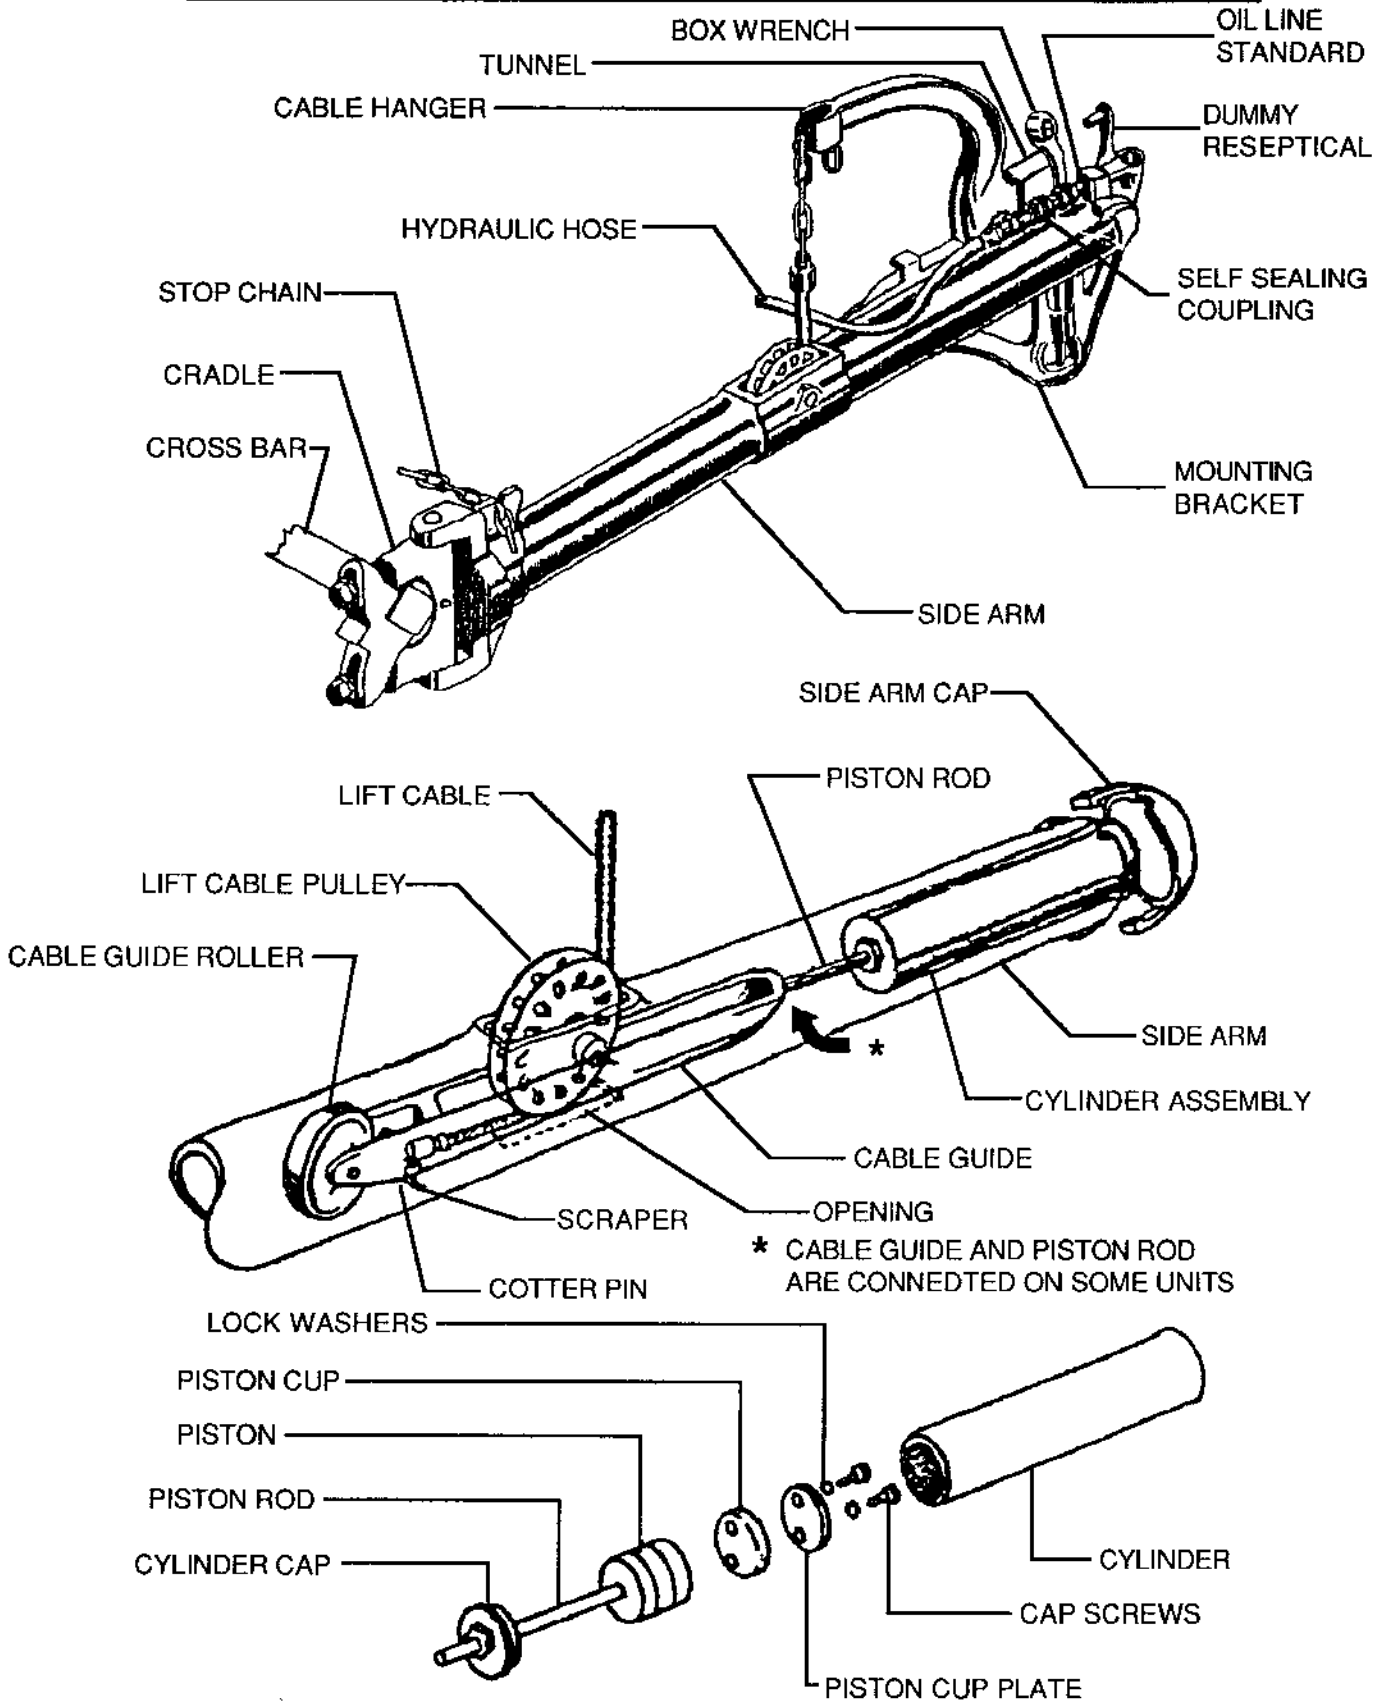

FIG. 8 SIDE ARM
- A. REPLACING WORN OR BROKEN LIFT CABLES (See Fig. 8)
B. Replacing Piston Cup Leather (Fig. 8)